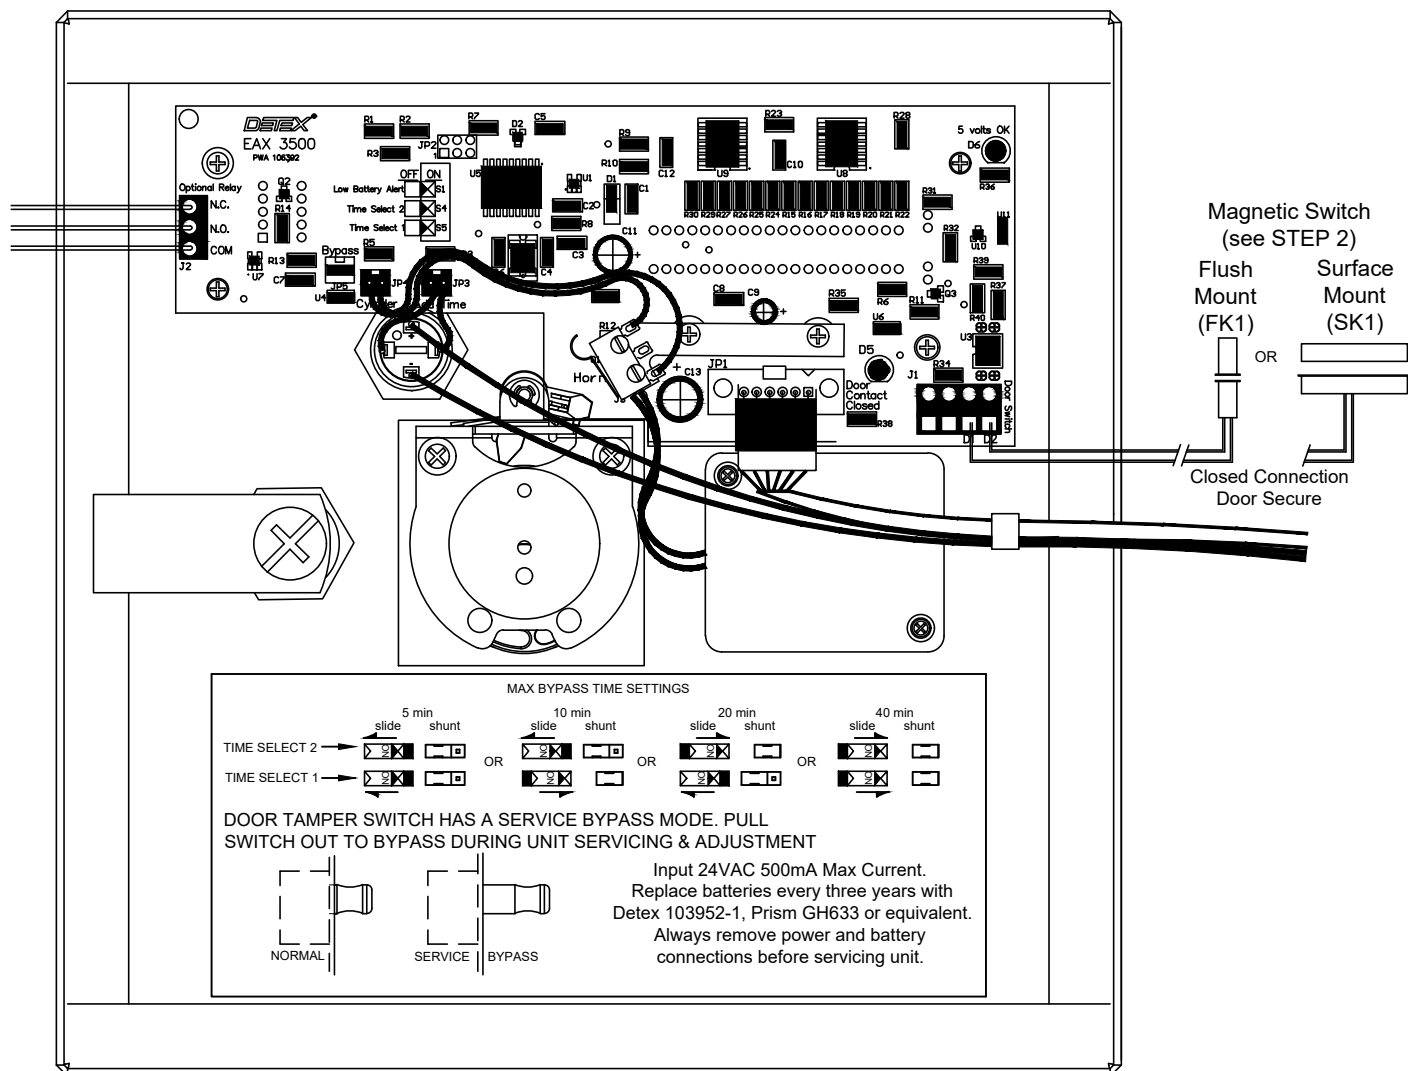

Fig. 2
STEP 2. MAGNETIC SWITCH INSTALLATION: Fig. 2
Connect magnetic switch wires to LOGIC DISPLAY pc board located on enclosure door. See Fig. 2.